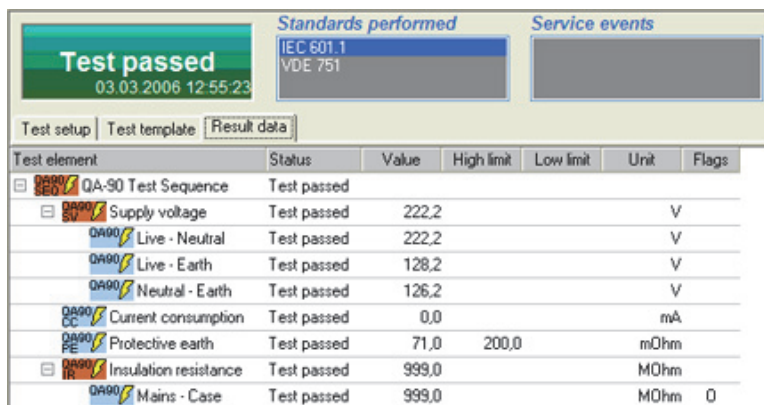

Figure 3-60. QA-90 Safety Test Record
- Click the **Next** button (→) again to create a test record. The test record is shown in Figure 3-60.